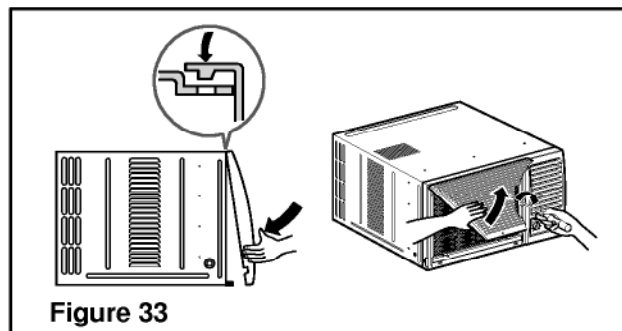

Figure 33
10. Attach the front grille to the cabinet by inserting the tabs on the grille into the tabs on the front of the cabinet. Push the grille in until it snaps into place. (See Fig.33)
11. Lift the inlet grille and secure it with a screw (Type A) through the front grille. (See Fig. 33)